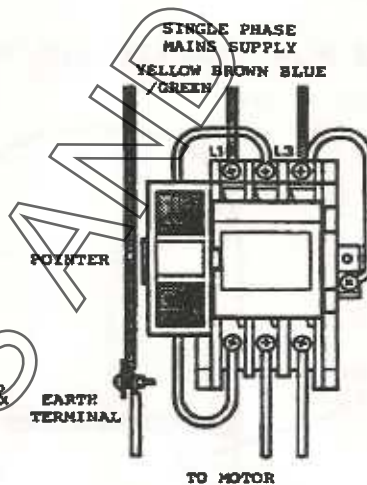

Fig.1.
**FOR SINGLE PHASE SUPPLY**, connect two supply leads to top terminals L1 & L3 of contactor an earth lead (yellow/green) must be connected to earth terminal of starter (See Fig.1).